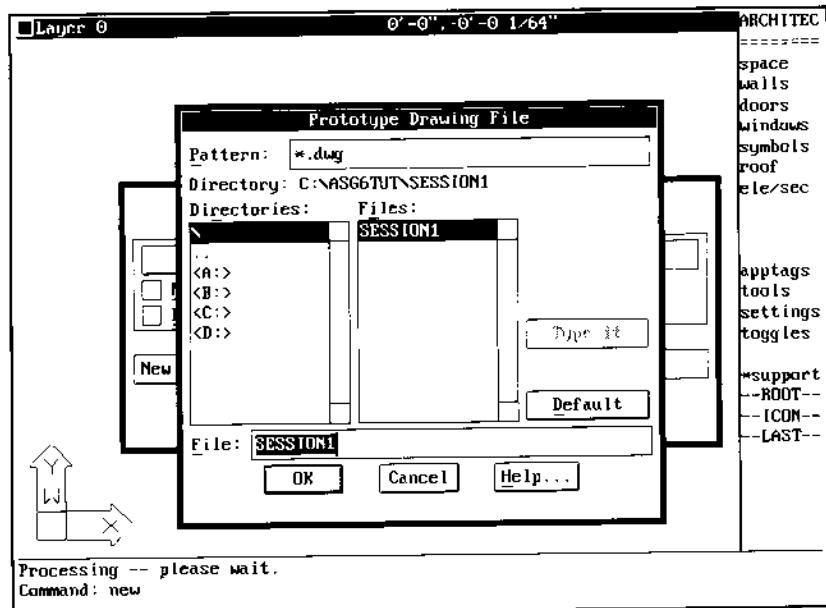

Figure 3.
6. Locate the drawing SESSION1 by picking the appropriate directory in the Directories: list box, then double click the SESSION1 drawing filename when it appears in the Files: list box as shown in Figure 3.